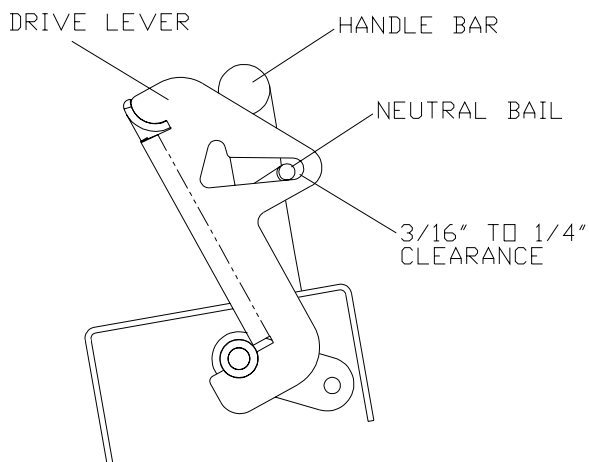

Figure 3
5. Remove the hood from the frame and install the deck belt. Be sure the belt is still wrapped around the clutch pulley under the rear deck. (See FIG 3)